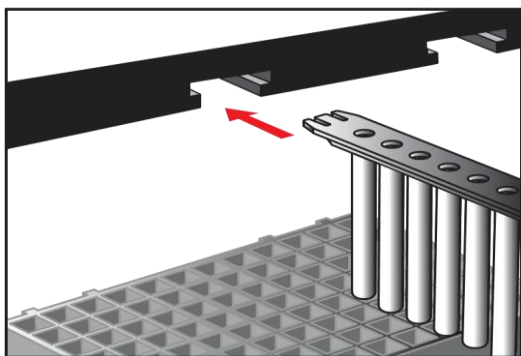

Figure 3: Inserting the rods plastic strip to its position
5. Insert the rods plastic strip in the strip holder in accordance to the tested samples plate and push it to the end (figure 3).